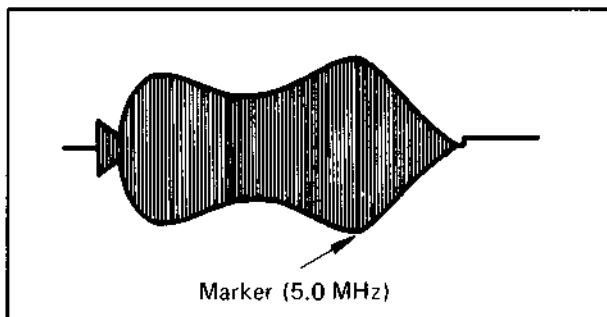

Fig. 5-13 RF signal
3. Adjust C18 (CH-1 RESON) so that the peak resonance at marker (5.0 M) becomes as shown in Fig. 5-13.